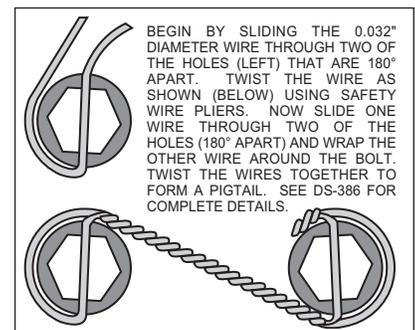
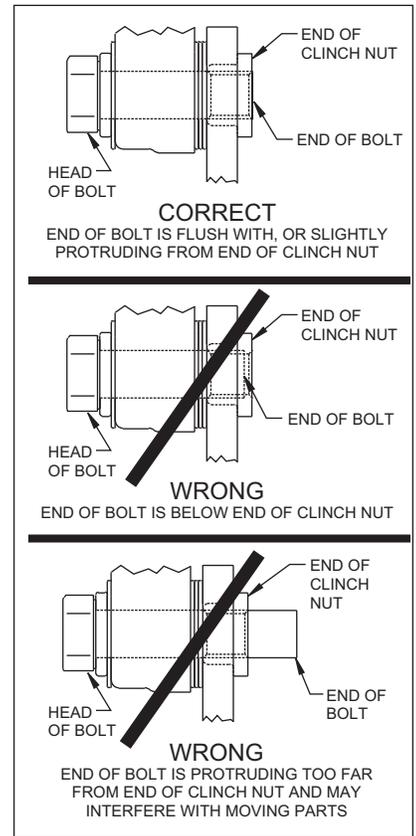

Figure 3. Safety Wire Diagram
Figure 4.
- With the mounting ears pointing towards the rear of the vehicle, install the caliper mounting bracket (1) to the housing flange using the bolts and nuts supplied with the C-clip eliminator kit. Apply red *Loctite*® 271 to the bolt threads and torque to OEM specifications. **NOTE:** The caliper mounting brackets (1) should be located between the axle housing flange and the inner C-clip hub. Make sure the heads of the caliper mounting bracket insert nuts are FACING OUTWARD TOWARDS THE WHEEL.
- Install the cable stop bracket (2) on the top front hole on the in-board side of the housing flange with the tab pointing toward the rear of the vehicle, held in place with the final bolt retaining the caliper mounting bracket (1). Apply red *Loctite*® 271 to the stock OEM bolt threads and torque to OEM specifications.
- Bolt the hat (3) to the rotor (4) using washers (5) and bolts (6). Torque bolts (6) to 180 in-lb. Safety wire rotor bolts (6) using standard 0.032 inch diameter stainless steel safety wire as shown in Figure 3. Please refer to Wilwood's data sheet DS-386 (available at www.wilwood.com/pdf/ds386.pdf) for complete safety wire installation instructions.
- Align the correct hole pattern in the hat (3) with the stud pattern on the axle flange. **NOTE:** Some OEM and after market axles come with stud sizes larger than 0.50" diameter. Verify stud size and have a qualified machine shop drill the hats to the correct size. Slide the hat/rotor assembly (3 and 4) over the wheel studs and against the axle flange face.
- WITH THE BLEED SCREWS POINTING UP, mount the caliper (7) over the rotor (4) and onto the caliper mounting bracket (1) using washers (8) and mounting bolts (9). View the rotor through the top opening of the caliper. The rotor should be aligned in the center of the caliper. If not, adjust the caliper by using 0.032 inch shims (10) by placing them between the caliper mounting bracket (1) and the caliper (7). Add as many shim washers (10) as necessary to achieve the correct alignment. **NOTE:** The end of the bolt must be flush with or slightly protruding from the head of the clinch nut. See Figure 4. Place spare shims (10) between washer and caliper mounting ear to achieve the proper mounting fastener configuration. Always use the same amount of shims on both the top and bottom caliper mounting bolts (9). Apply red *Loctite*® 271 to the mounting bolt threads (9), torque to 30 ft-lb. Safety wire the caliper mounting bolts (9).